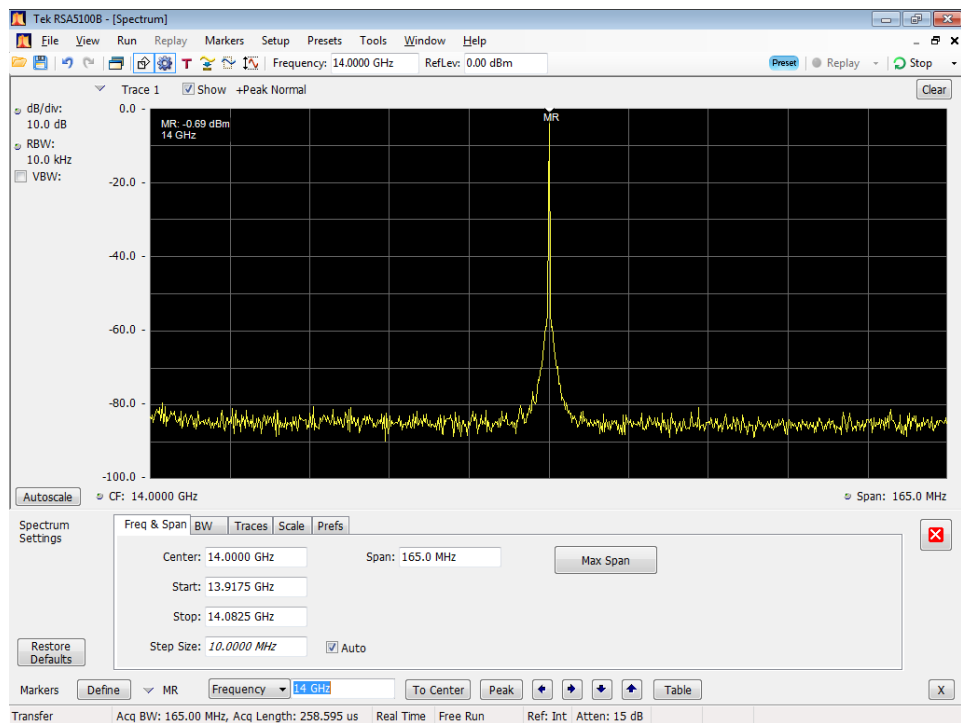

Figure 11: 14 GHz output waveform
28. Check that the Channel 1 waveform is properly displayed on the signal analyzer screen. (See Figure 11.)